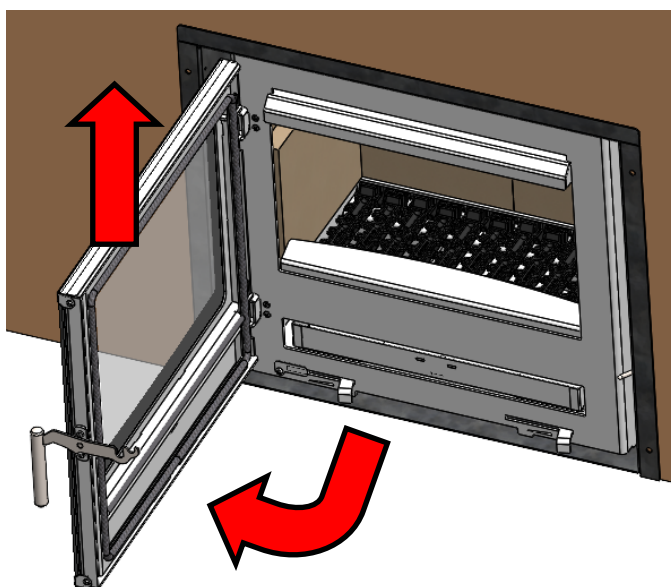

Fig. 1. Removal Of Fire Door Assembly
Step 1 : On the fitted Cassette stove body, remove the fire door assembly, by opening the door to 90 degrees to the front of the stove. Gently apply an upward force whilst lifting the door assembly and removing the door from its hinges. See Fig. 1.